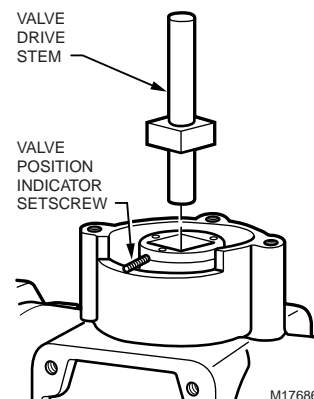

Fig. 12. Inserting the Valve Drive Stem in the V5197 Valve.
1. Place the short end of the Valve Drive Stem in the top of the V5197 Valve drive so that the square portion of the drive stem is fully engaged in the square hole in the valve drive assembly. See Fig. 12.